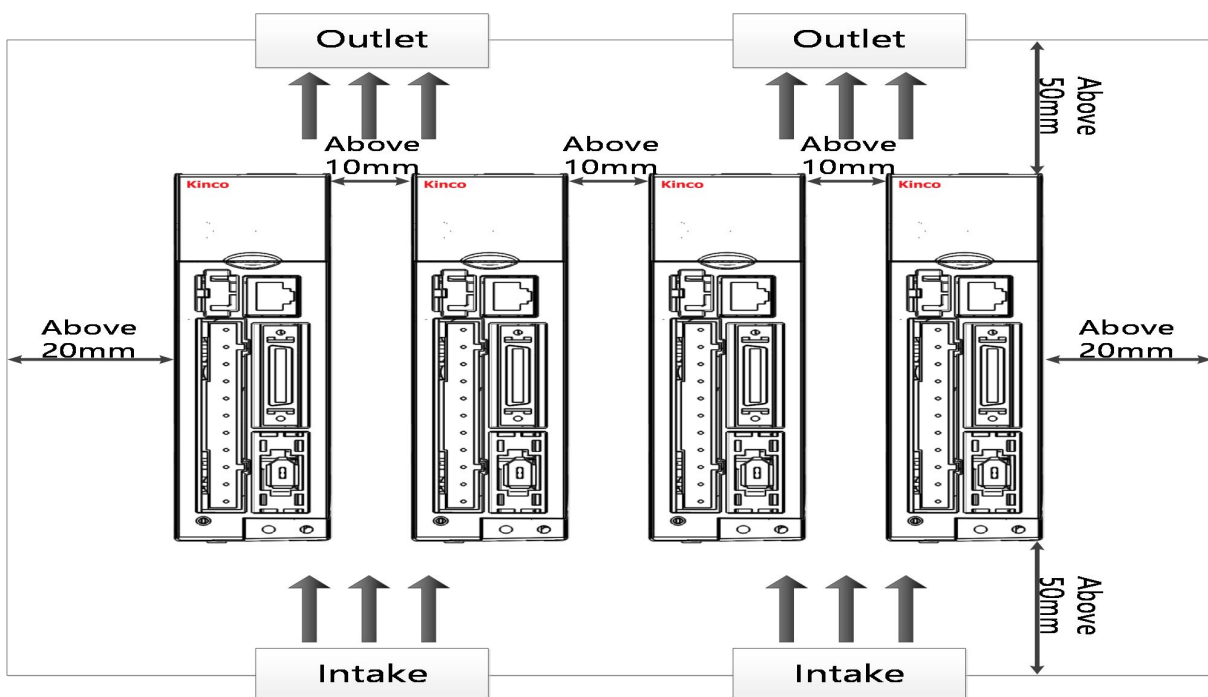
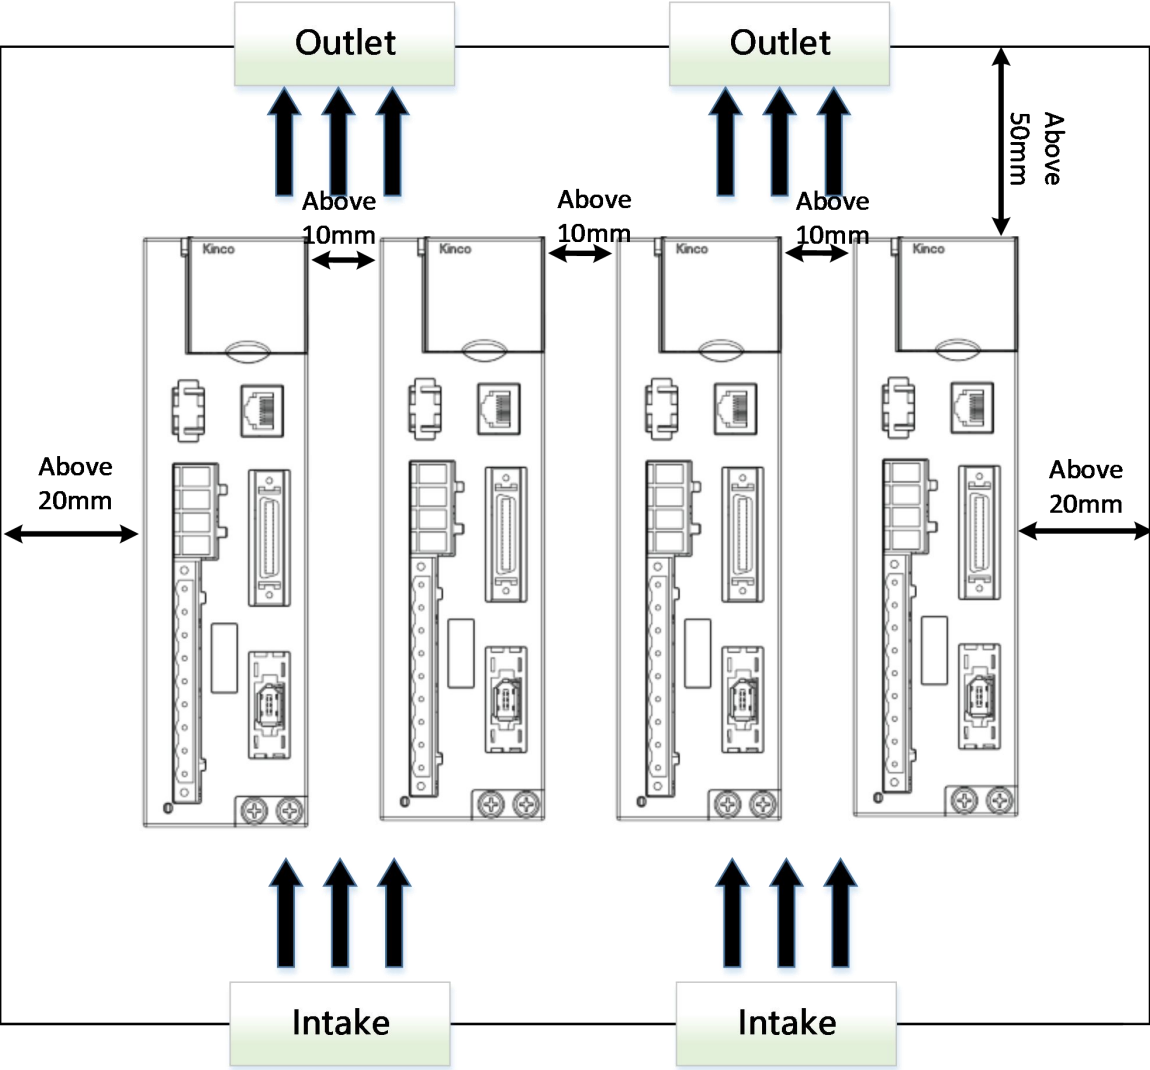

Figure 2-3 CD&FD413 423 Installation direction and requirements
Figure 2-4 CD&FD433 623 Installation direction and requirements
- Please operate in strict accordance with the requirements of this manual, Refer to Figure 2-3 and Figure 2-4 for correct installation of the servo system.